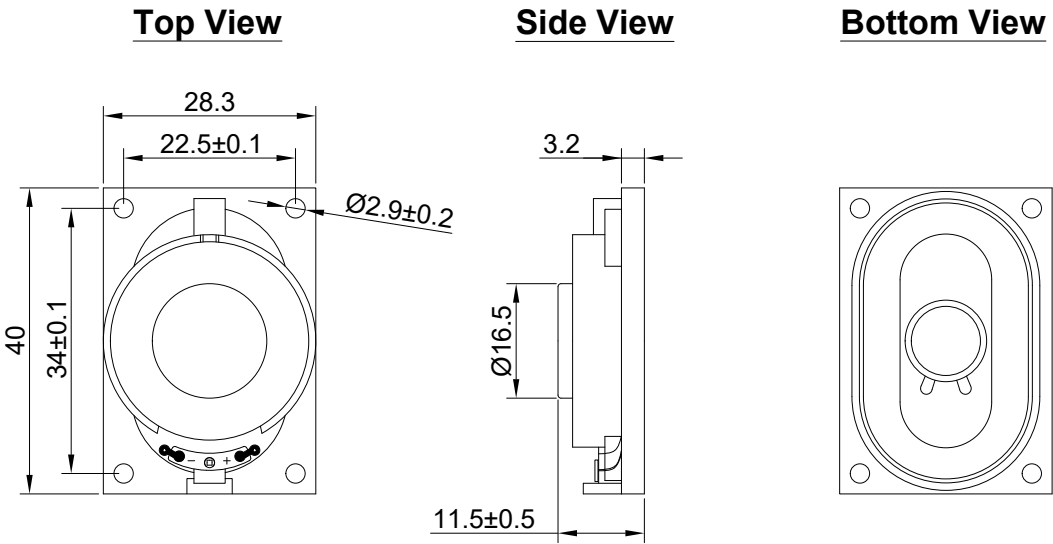

Figure 3. HSP3040A-8 Mechanical Layout
- 4.3.1. Layout and Dimension : See Section 6, Figure 3